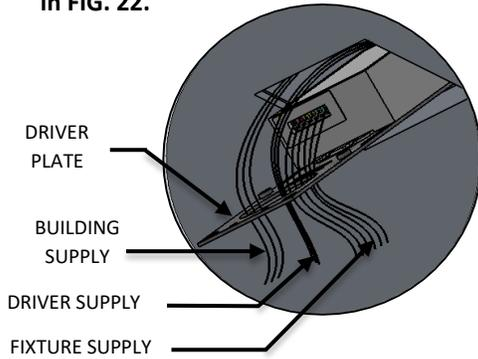

FIG. 21- DETAIL SHOWING BUILDING SUPPLY AND DRIVER WIRE
17. Slide DRIVER PLATE into the box with the DRIVER facing up.as you slide the plate in, make sure you pull the BUILDING SUPPLY connections through the large hole in the DRIVER PLATE as shown below in FIG. 21 and other wires will already be through the center hole.